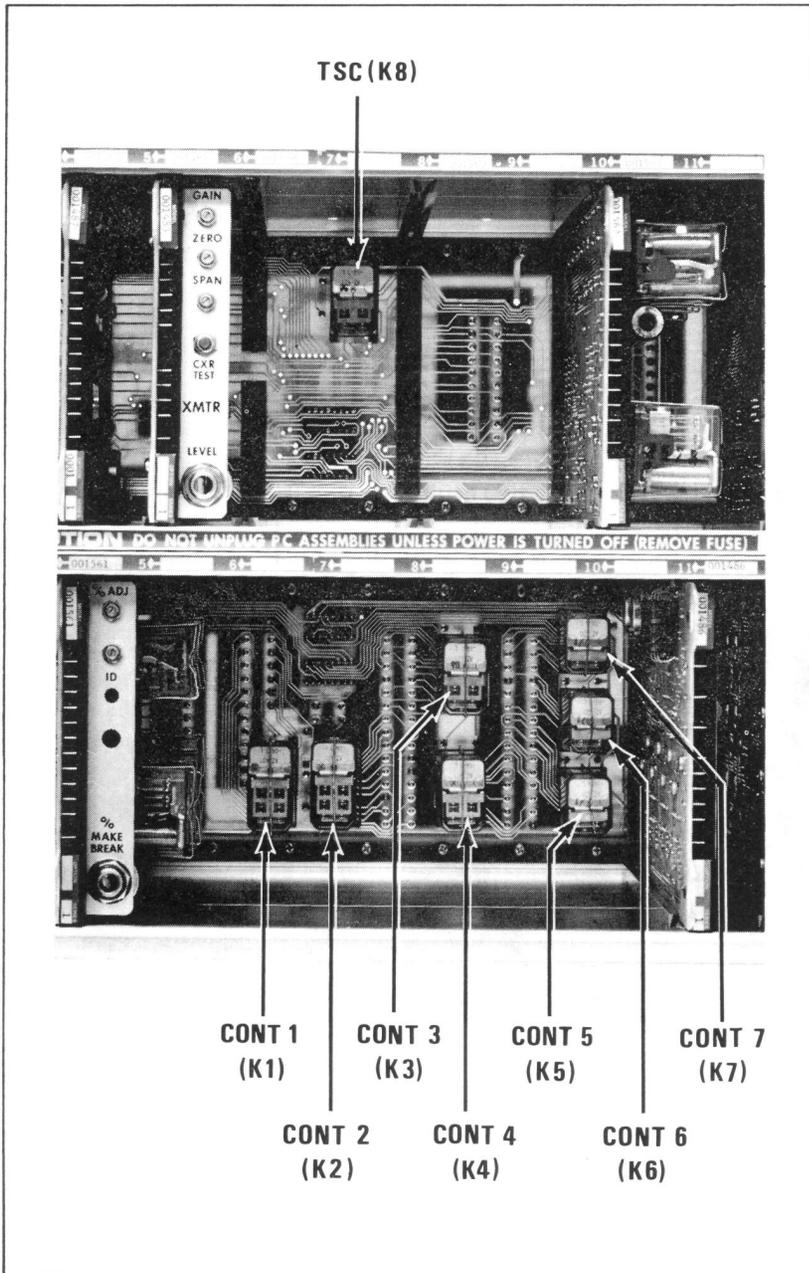

Figure 16 - Control Relays K1 (CONT 1) thru K7 (CONT 7) and K8 (TSC)
3. If the buffer is loading normally and one of the master station's CONT (1-7) pushbuttons is operated, the corresponding control relay (Figure 16) should operate. If it does not:
- a. Check or substitute relay K8 on the motherboard. (See Fig. 16).
- c. If the tone level is normal, check or substitute relay K5 on card 001561 and relay K8 (Figure 16) on the motherboard. If still no signal is heard at test point E, replace Card 001492.
- a. Check or substitute relay K8 (Figure 16) on the motherboard.